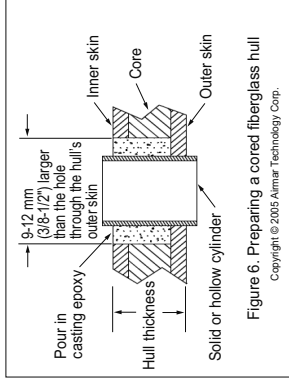

Figure 6. Preparing a cored fiberglass hull
- Drill a 3 mm or 1/8" pilot hole from inside the hull (see Figure 6). If there is a rib, strut, or other hull irregularity near the selected mounting location, drill from the outside. (If the hole is drilled in the wrong location, drill a second hole in a better location. Apply masking tape to the outside of the hull over the incorrect hole and fill it with epoxy.)